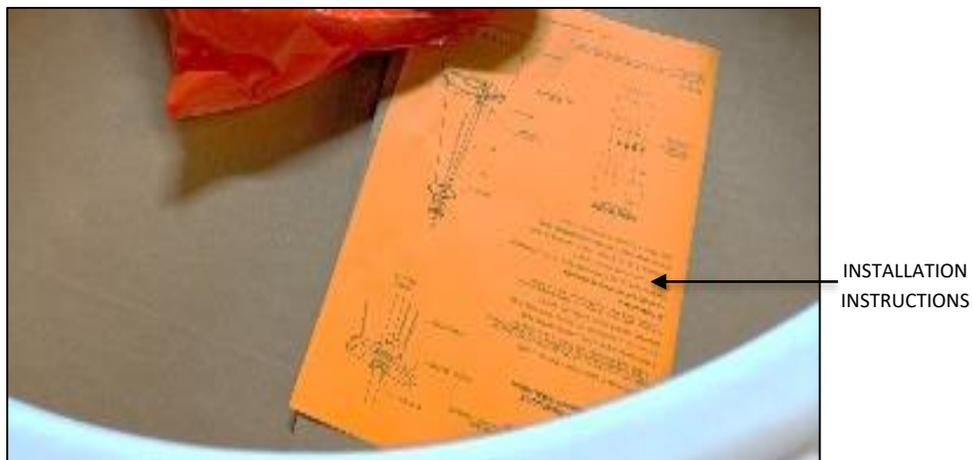

FIG.4 INSTALLATION INSTRUCTIONS
2. INSTALLATION INSTRUCTIONS (shown in FIG. 4) - Please completely read the install instructions before starting installation.